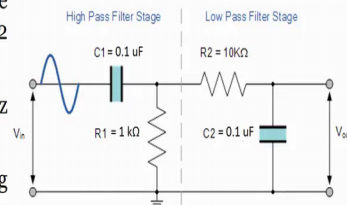

Figure 19
- Connect the circuit as shown in the Figure 19. Here, $R_1 = 1\text{ k}\Omega$, $R_2 = 10\text{ k}\Omega$ and C_1 and C_2 as $0.1\text{ }\mu\text{F}$